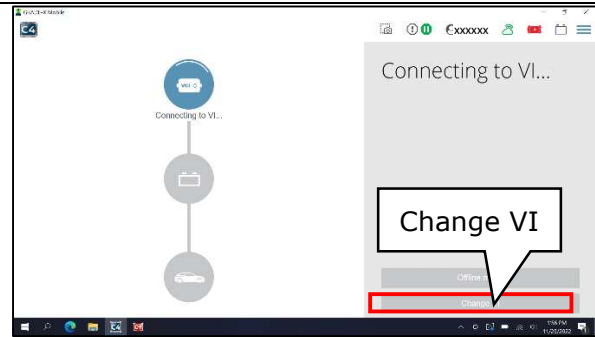
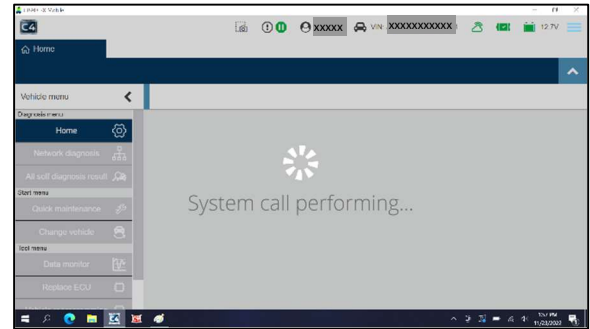

Figure 7
Figure 8
9. Allow C4 to connect to VI3 and perform vehicle system call. (Figure 7 and Figure 8)
VI3 may not automatically connect the first-time logging in. If the VI does not automatically connect, select **Change VI** on the RH side of the screen. (Figure 8)